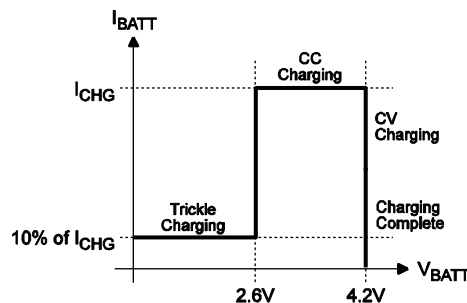

Figure 2—MP26121 Typical Charging Profile
Figure 2 shows the typical charging profile for the MP26121. For a fully depleted battery with a terminal voltage lower than 2.6V, the MP26121 will start with the trickle charge (preconditioning) at 10% of the full charge current based on the value of  $R_{CHG}$ . If the charger stays in trickle mode longer than 32768 cycles,  $\overline{CHG}$  becomes high impedance, indicating a battery fault. After the battery voltage reaches 2.6V, the charger begins charging using the programmed charge current ( $I_{CHG}$ ). This is referred to as Constant Current (CC) mode. Once the battery voltage reaches 4.2V, the charger will operate in the constant voltage (CV) mode until the battery is fully charged. The charge current drops during CV mode, and the battery full indication is set when the charge current is reduced to 10% of the programmed constant current value ( $I_{CHG}$ ). The charge process is then terminated. Recharge will start after the battery voltage is reduced to 4.0V. After 262144 cycles of continuous charging, if the battery still has not reached 10% of the  $I_{CHG}$  condition, the on-chip timer will terminate the charger to prevent charging the dead battery excessively and the fault condition will be flagged by flashing the  $\overline{CHG}$  LED.